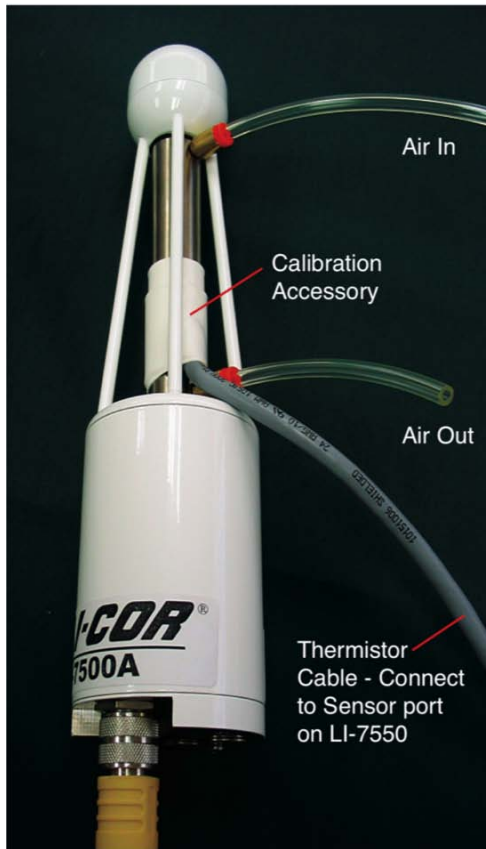

Figure 5-1. Flow calibration gas into either port.
4. Flow CO₂-free air through the calibration accessory at a rate of about 0.5 to 1.0 LPM. Attach the zero gas to the calibration fixture at one of the ports shown in Figure 5-1. The calibration accessory has quick connect fittings for use with standard 1/8" I.D. Bev-a-line (or other) tubing.